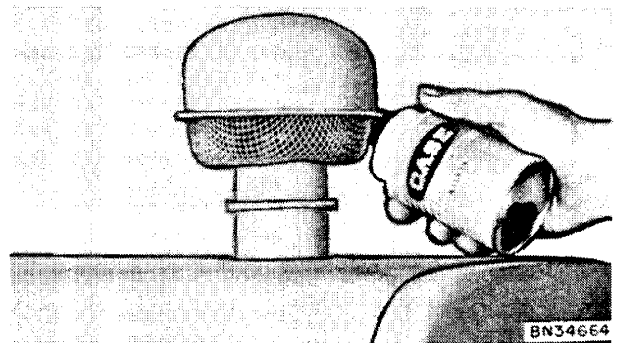

Figure 11 - Ether Spray Bomb
3. Using the ether spray bomb, direct spray into screen mesh of air cleaner cap. At the same time crank the engine with the starter. Repeat until engine has fired. Figure 11.